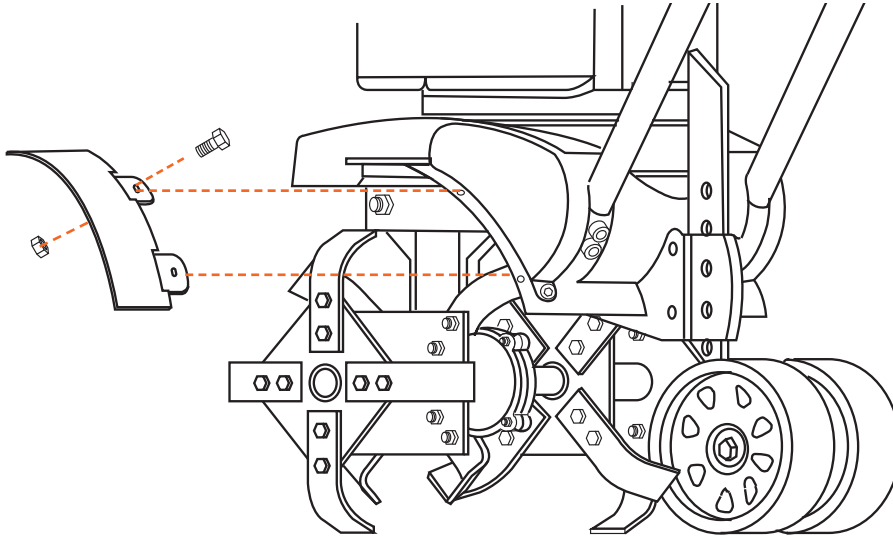

Figure 8
1. There are left and right hand Safety Shields. Each has three holes drilled through a mounting tab. Align the mounting tab with the holes drilled in the tiller and secure with a hex bolt through the top and a hex nut underneath the safety shield in three places on each side (see Figure 8).